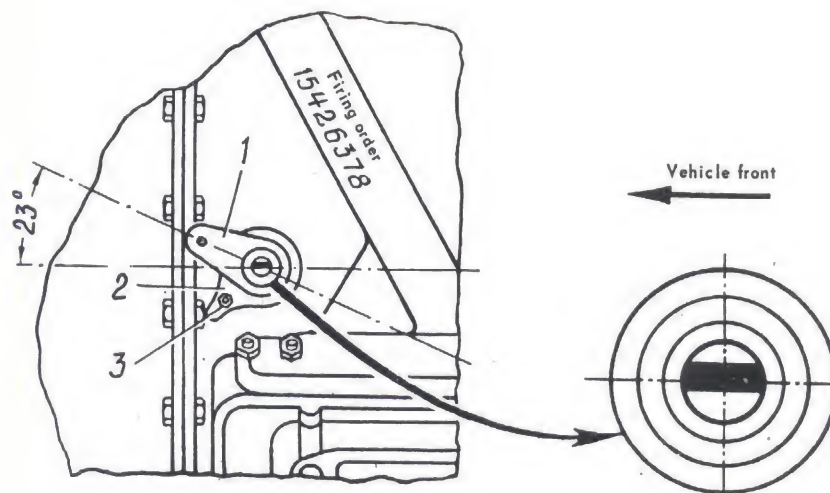

FIG. 87. INSTALLATION OF DISTRIBUTOR DRIVE
(a) insert the distributor drive into the hole of the cylinder block so that the slot in the drive shaft is in line with the engine longitudinal axis and shifted to the right when viewed from the rear of the vehicle (Fig. 87);
(b) secure ignition distributor drive body 1 by means of holder 2 and nut 3 so that the bracket with the threaded hole on distributor drive body 1 is facing forward (towards the vehicle front) and turned through  $23^{\circ}$  leftwards from the engine longitudinal axis as shown in Fig. 87.
4. Loosen attachment nut 3 (Fig. 87) of the ignition distributor drive holder.